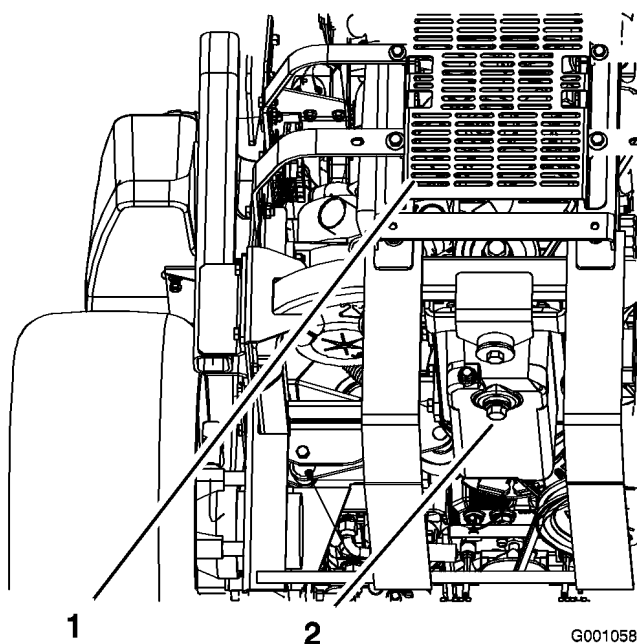

Figure 36
5. Place a pan below the oil drain. Remove the drain plug and let the oil drain completely (Figure 36).